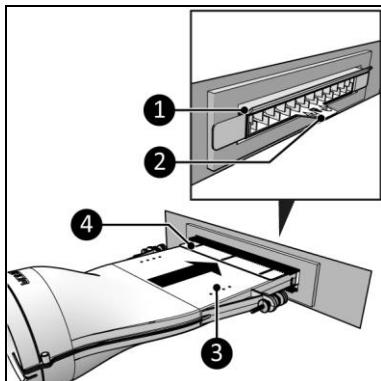

Figure 3
1. Insert the main body (Figure 3, pos. 3) into the transit (Figure 3, pos. 4).
2. Make sure only the handle (Figure 3, pos. 2) is sticking out from the mailbox (Figure 3, pos. 1).
When the mailbox flap goes inwards, make sure only the handle (Figure 3, pos. 1) sticks out from the mailbox.